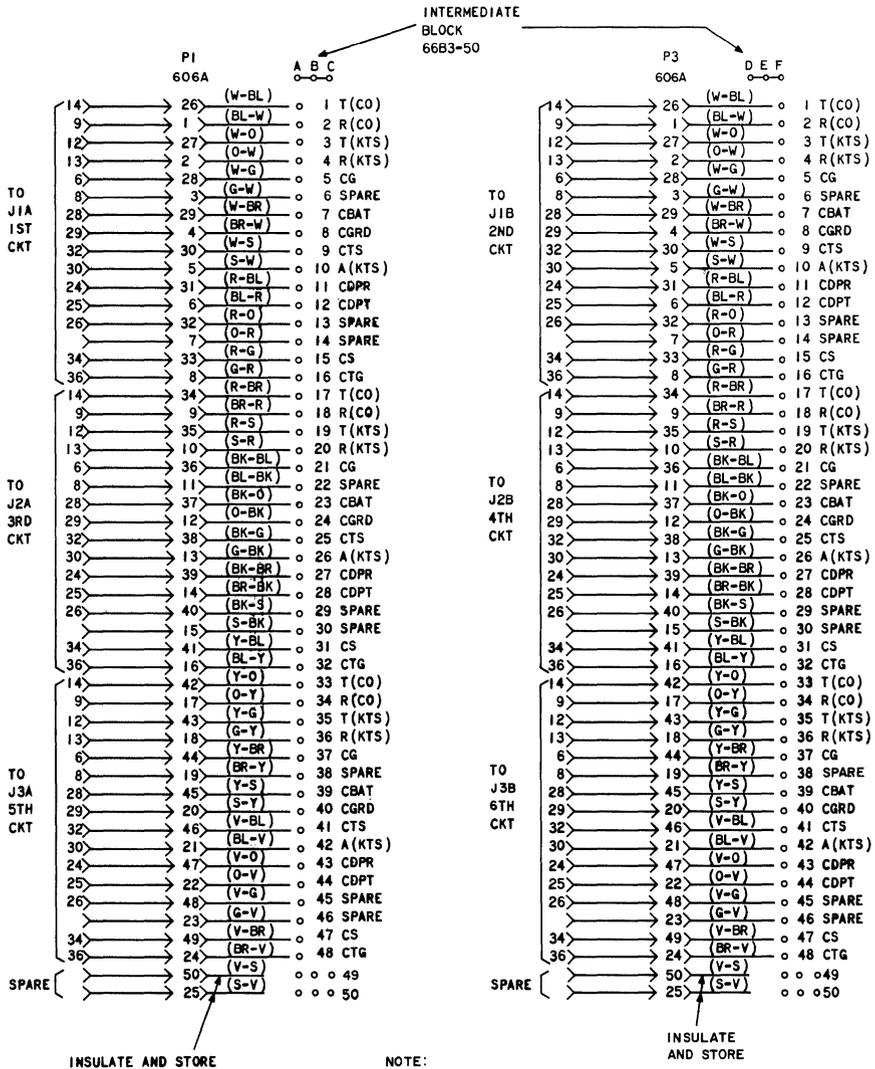

Fig. 8—Connections for Plugs P1 and P3 to Intermediate Block
shown in Fig. 8 and 9. **Do not use B bridging clips or wire straps** with the intermediate block. Terminate the cable from P1 on column A of the block and terminate the cable from P3 on column F (Fig. 8). Stencil lead designations on fanning strip.
- \* REFER TO FIG. 8 FOR PIN OR TERMINAL NUMBERS.
- (W) CP CALL RESTRICTED TONE SIGNAL ON CTS AND CTG LEADS.
- (X) CP CALL RESTRICTED TONE SIGNAL ON CDPT AND CDPR LEADS.
- (Y) CP BAT AND GRD CONNECTED TO CDPT AND CDPR LEADS IN IDLE CONDITION.
- (Z) LOCAL BAT AND GRD CONNECTED TO CDPT AND CDPR LEADS IN IDLE CONDITION.